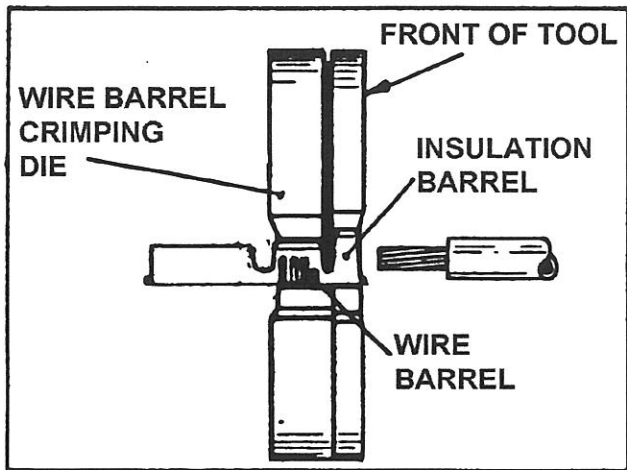

Figure 2
1. Hold the tool so that the front of it is facing you. See Figures 2 and 3.
3. Insert the contact into the tool. Center the contact wire barrel on the wire barrel crimping die. See Figures 2 and 3.